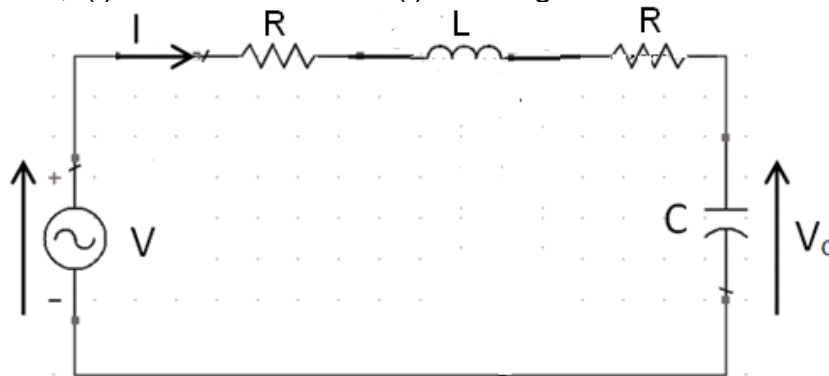

Figure 3(a): RLC electrical circuit
(a) A RLC circuit is shown in Figure 3(a) below.
- (i) Develop a differential equation for the RLC electrical circuit shown in Figure 3(a) above.